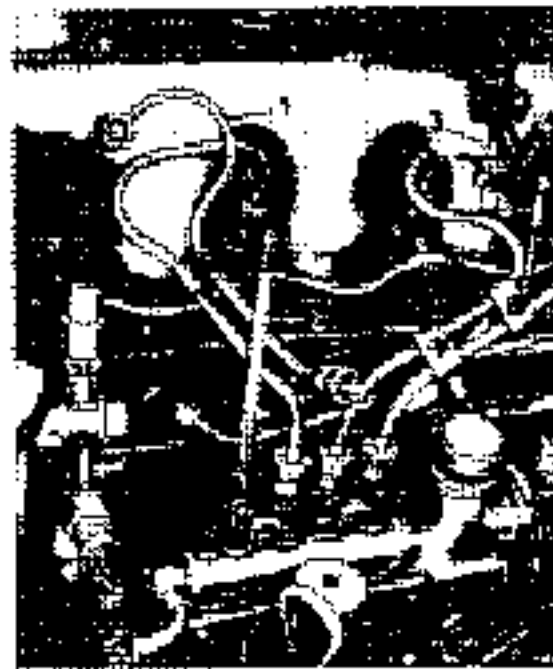

Fig. 30-10/2
The removal and installation procedures for the control knob and cable are essentially the same as for Model 190 C with the difference that the idle adjustment control cable (3) is attached to the angle lever (4) instead of to the throttle valve lever of the venturi control unit. An adjusting screw has been installed on the bearing bracket of the angle lever on the cylinder head cover to make it easier to adjust the control cable accurately (Fig. 30-10/2).